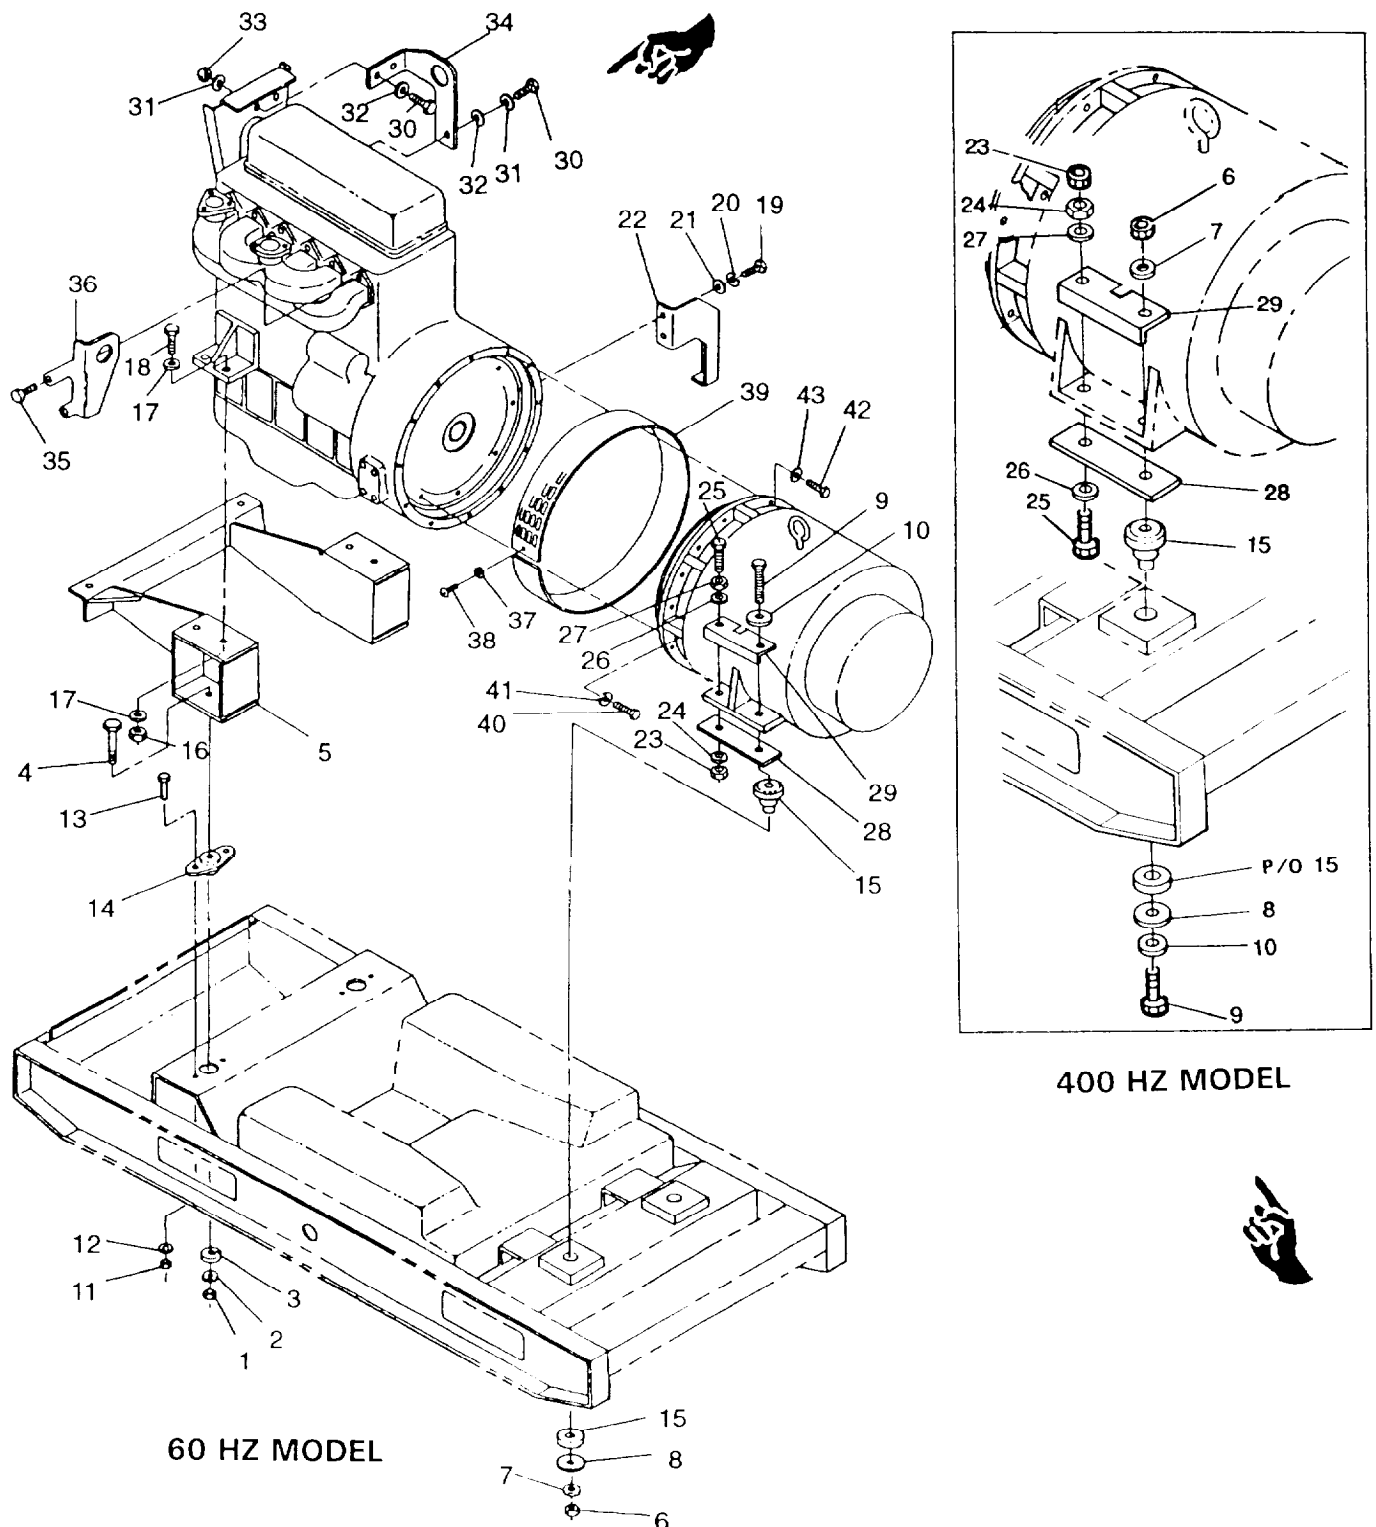

FIGURE 3-1. Engine and Generator Assembly
- j. Remove nuts (1, FIGURE 3-1) washers (2), snubbing washers (3), and bolts (4) from engine mounts (5).
- l. Remove nuts (6), washers (7), snubbing washers (8), bolts (9), and Belleville washers (10) from generator mounts.
- p. Remove engine shock mounts (14) from skid base by removing nuts (11), washers (12), and bolts (13).
- q. Remove shock mounts (15) from generator mounting points on skid base.
- r. Remove engine support bracket (5) by removing nuts (16), washers (17), and bolts (18).
- s. Remove engine support brackets (22) by removing bolts (19), lockwashers (20), and washers (21).
- t. Remove generator mount angles (29), plates (28), nuts (23) and (27), washers (24) and (26), and bolts (25) from generator.
- u. Remove bolts (30), lockwashers (31), washers (32), nuts (33), and bracket (34) from engine.
- v. Remove bolts (35) and bracket (36) from engine.
- a. Install bracket (36, FIGURE 3-1) on engine with bolts (35).
- b. Install bracket (34) on engine with bolts (30), lockwashers (31), washers (32), and nuts (33).
- c. Install engine shock mounts (14) on skid base with bolts (13), washers (12), and nuts (11).
- d. Position generator shock mounts (15) in skid base.
- e. Install engine support bracket (5) on engine with bolts (18), washers (17), and nuts (16). Torque nuts (16) to 31 ft-lbs (42 Nm).
- f. Install engine support brackets (22) on engine with bolts (19), lockwashers (20), and washers (21).
- g. Install generator mount angles (29) and plate: (28) on generator with bolts (25), washers (24) and (26), and nuts (23) and (27).
- aj. Loosen clamp (1, FIGURE 3-1 2) and disconnect oil drain hose (2) from engine oil pan.
- au. Remove bolts (5), washers (7), and lockwashers (6) securing load output terminal board assembly (8) to supports (9) and (10). Pull load output terminal board assembly out through access door.
- av. Remove assembled nuts (11), bolts (12), and support (10) from right side panel.
- aw. Loosen nuts (23 and 27, FIGURE 3-1), turn bolts (25) to contact skid base and tighten nuts (23) and (27).
- ax. Remove screws (38), washers (37), and screen/over (39) from generator case.
- az. Remove bolts (40) and lockwashers (41) securing generator drive disc to engine flywheel.